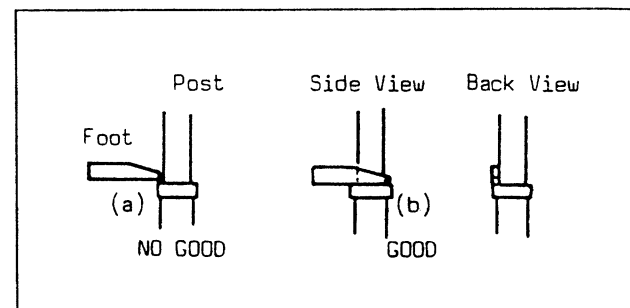

Fig. M12-3
4. Set the fixture to zero "0" and slowly raise the post until it just touches the foot. When the foot touches the post, it should fit as shown in Fig. M12-3 (b). For adjustment of P2 and P3, use the Post Adjustment Screwdriver.